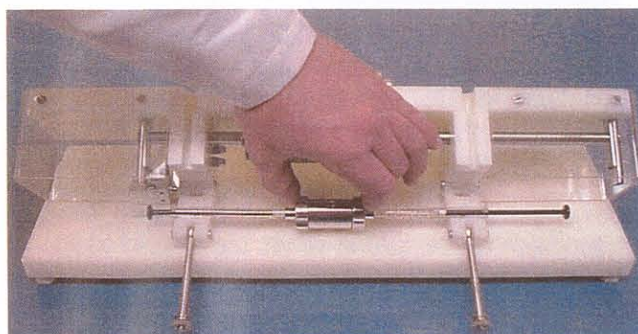

Figure 8: Place the LiposoFast-Basic on the lower clamps of the Pneumatic-Actuator. The support housing is suspended between the two clamps.
8.5 Place the LiposoFast on the lower clamps of the Pneumatic-Actuator (See figures 8 and 9). Processing should always begin with the syringe containing the multilamellar liposome solution on the same side, preferably the right. This is to ensure process consistency among different users. It is important that the piston of the Pneumatic-Actuator be positioned to the same side as the full syringe. The plunger of the empty syringe must be fully inserted.